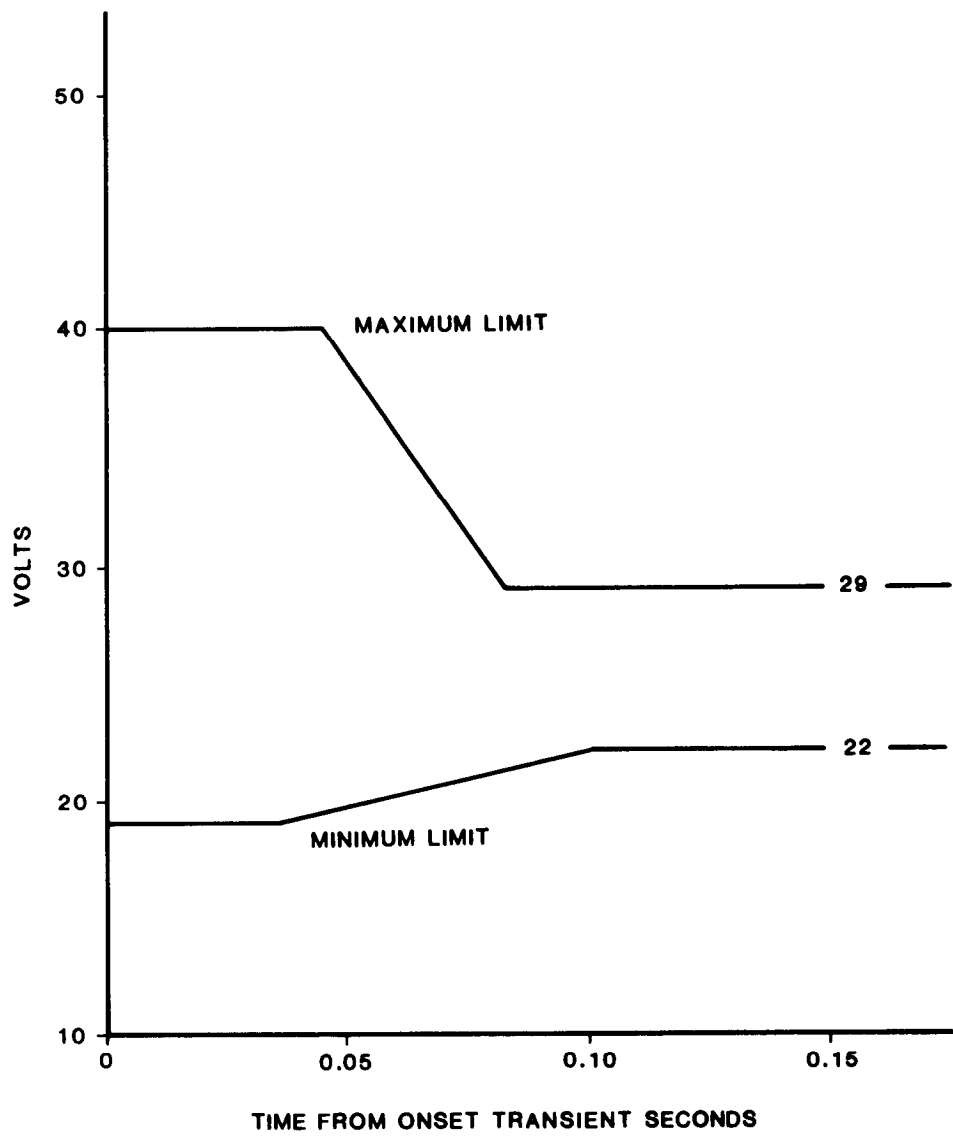

Figure 13-2. Envelope of Voltage Transient for 28 Volts (Nominal) DC System
h. Figures 13-2 through 13-5 show acceptable limits of transient response, exhaust gas temperature, oil sump temperature, and fuel flow limits.
(1) Oil leaks or fuel leaks in excess of 10 drops /minute.
(2) Engine vibration amplitudes exceed 0.3 mil at any rotor frequency from 0 -1500 Hz.
(3) Oil pressure falls below 17 psi (117 kPa) or exceeds 35 psi (241 kPa).
(4) Oil temperature exceeds 250°F (121.1 °C).
(5) Fuel flow or turbine exhaust temperature exceeds normal limits.
(6) Acceleration time from initiation of cranking to rated speed is longer than 30 seconds.